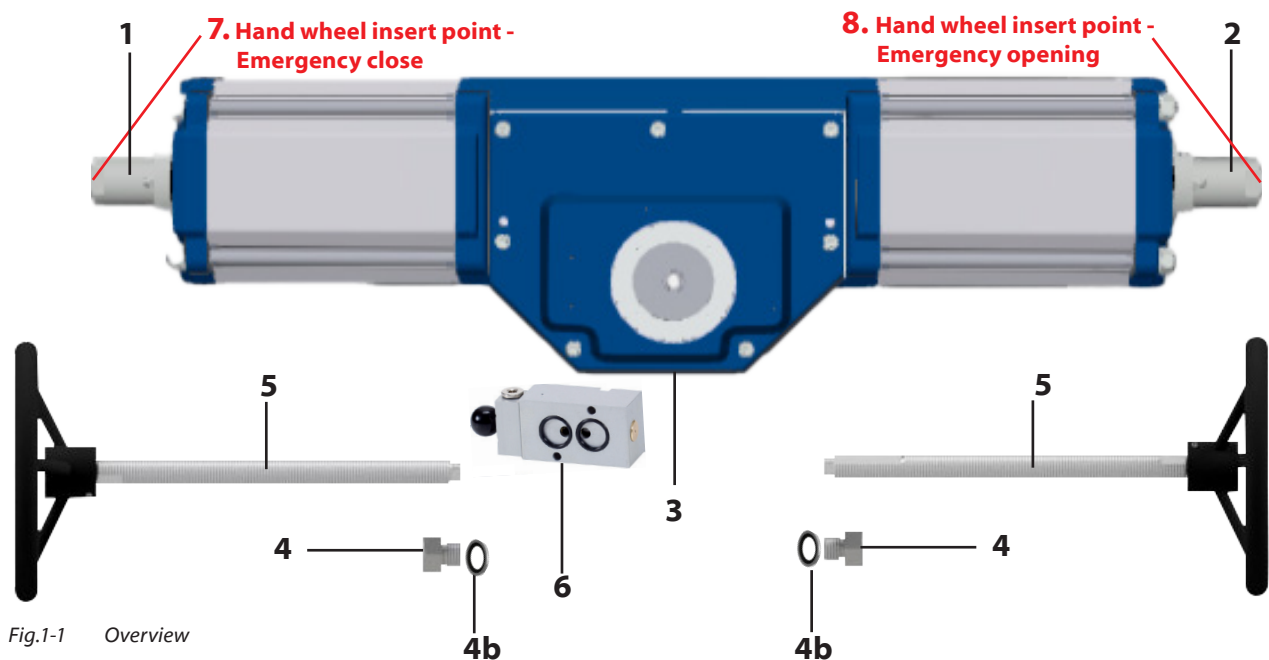

Fig.1-1 Overview
2. Remove the end plugs (→ Fig.1-1/4) and the sealing washer (→ Fig.1-1/4b) from the actuator.
3. Mount the wheel (→ Fig.1-1/5) on the closing/opening side at the actuator.
Wheel mounted in the position number 2 (→ Fig.1-1/2) will open the valve when turning the emergency operating wheel clockwise.
Wheel mounted in the position number 1 (→ Fig.1-1/) will close the valve when turning the emergency operating wheel clockwise.
1. Remove the Emergency operation wheels (→ Fig.1-1/5) from the actuator.
2. Remount the End plugs (→ Fig.1-1/4) to the Actuator. Make sure the Sealing washers (→ Fig.1-1/4b) is attached to the End plugs.
3. Secure the position of the End position bolts (→ Fig.1-1/1,2) with a wrench at the recesses at the end bolts. While securing the position bolt tighten the End plug with a torque of approximately 80 Nm or until the actuator is air tight.